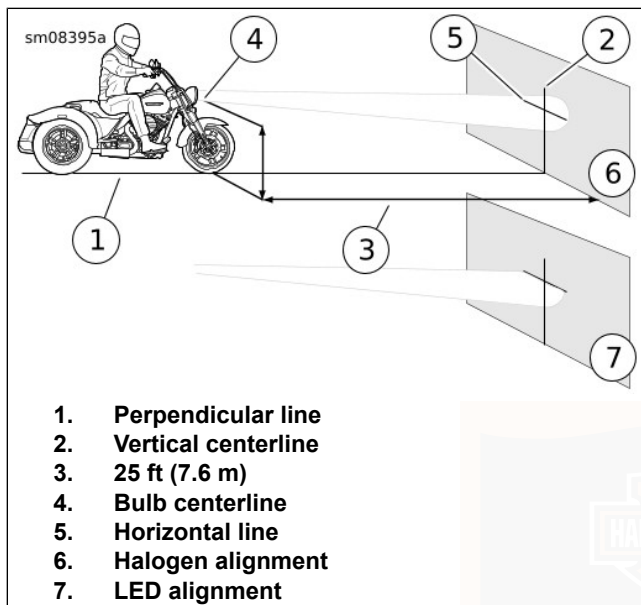

Figure 77. Headlamp Alignment: FLRT Single Headlamp
4. See Figure 77. Park the motorcycle on a line (1) perpendicular to the wall.
6. Draw a vertical line (2) on the wall.
4. Loosen vertical adjustment screw (1).
5. See Figure 77. Tilt headlamp up or down until light beam is correct.